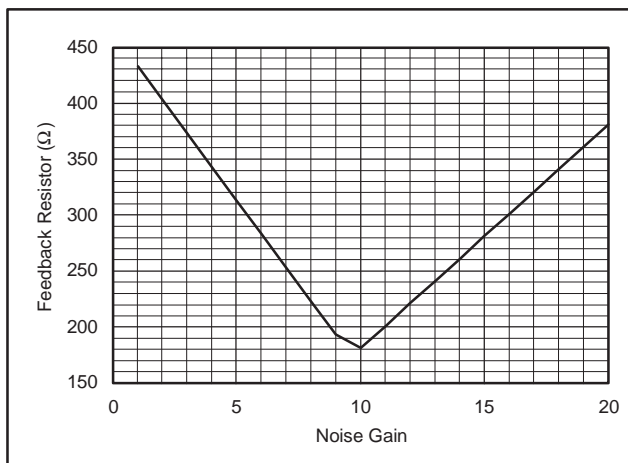

Figure 9. Feedback Resistor vs Noise Gain
As the desired signal gain increases, this equation will eventually predict a negative R_F . A somewhat subjective limit to this adjustment can also be set by holding R_G to a minimum value of 20Ω . Lower values will load both the buffer stage at the input and the output stage, if R_F gets too low, actually decreasing the bandwidth. Figure 9 shows the recommended R_F versus NG for $\pm 5\text{V}$ operation. The values for R_F versus gain shown here are approximately equal to the values used to generate the Typical Characteristics. They differ in that the optimized values used in the Typical Characteristics are also correcting for board parasitics not considered in the simplified analysis leading to Equation (2). The values shown in Figure 9 give a good starting point for design where bandwidth optimization is desired.